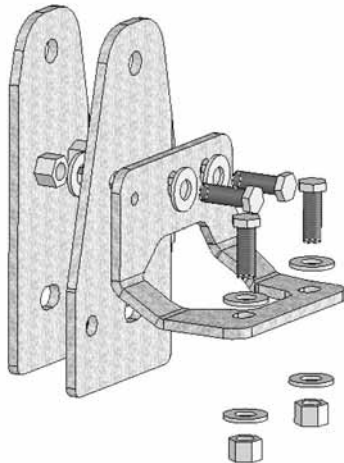

Figure 43
21. Loosely install the provided track bar relocation bracket to the axle with a 9/16" x 3-1/2" bolt, nut and 9/16" SAE washers through the original track bar mounting hole. **Figure 43**